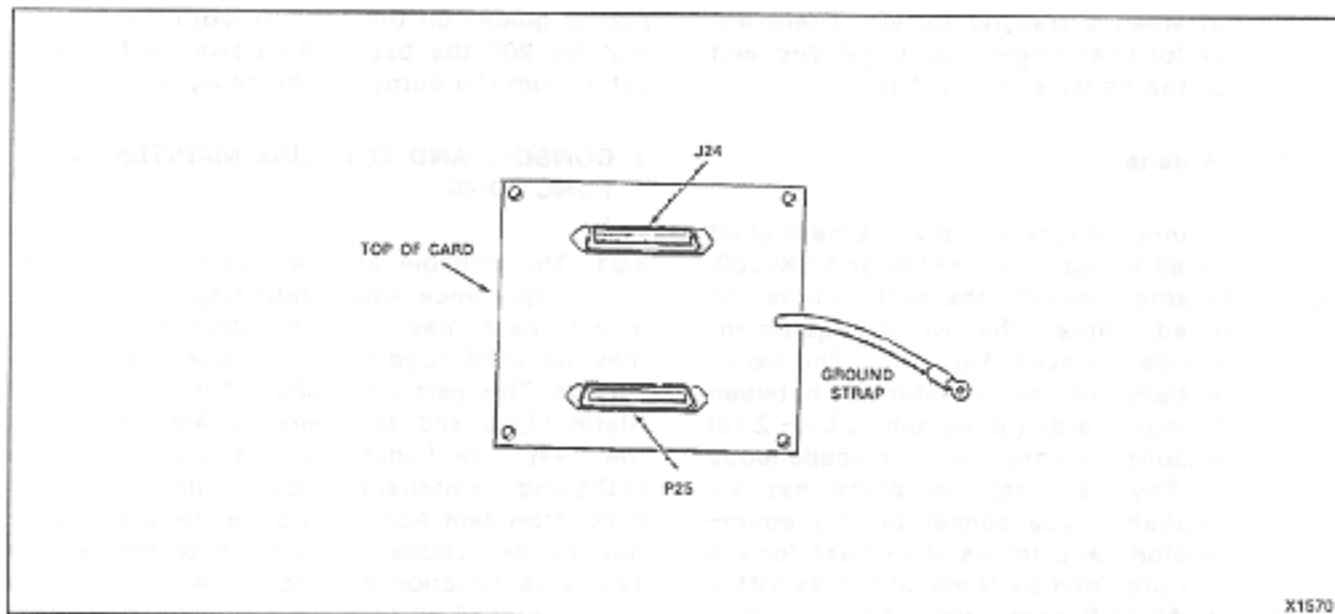

Fig. 2-7 SX-200 Console Interface Card
2.23 The Console Interface Card (Fig. 2-7) provides static protection for the SX-200 system against discharges to the console and console cable. This protection is achieved by placing a series of transient voltage suppressors between the console connections and a chassis ground. Any transient voltages will be routed to the ground.